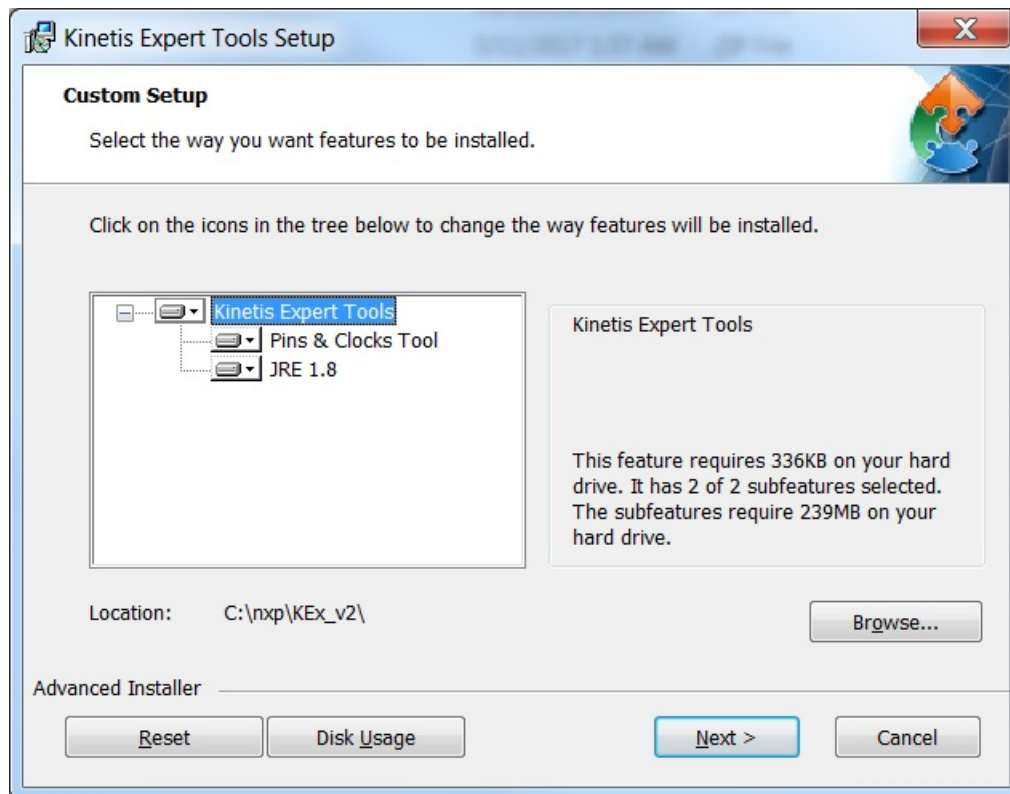

Figure 3. Installing MCUXpresso Config tools
1. After downloading MCUXpresso Config Tools, install the executable file for your platform. Select 'Pins and Clock Tool', and select Java, as shown in Figure 3.